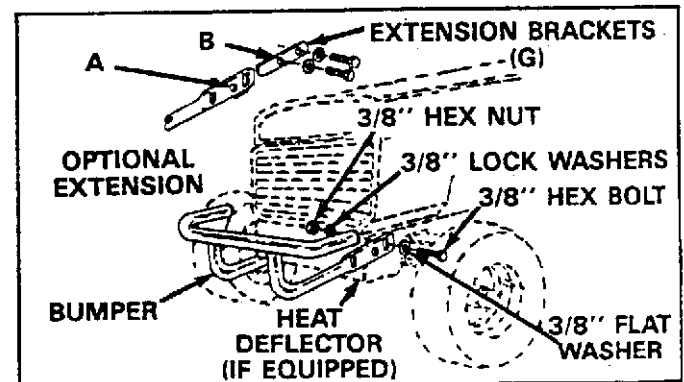

FIGURE 3
1. #44741 Bumper (See figure 3)
It may be necessary on some tractors to extend the bumper forward for hood clearance by using the bumper extension brackets. Slide extension brackets inside bumper mounting tubes until hole B aligns with hole A. See figure 3.
2. Assemble bumper to sides of tractor frame using four 3/8" x 1-1/2" hex bolts and four 3/8" flat washers. Secure loosely with four 3/8" lock washers and four 3/8" hex nuts as shown in figure 3. Push bumper down to allow hood tilt clearance. Tighten nuts securely.